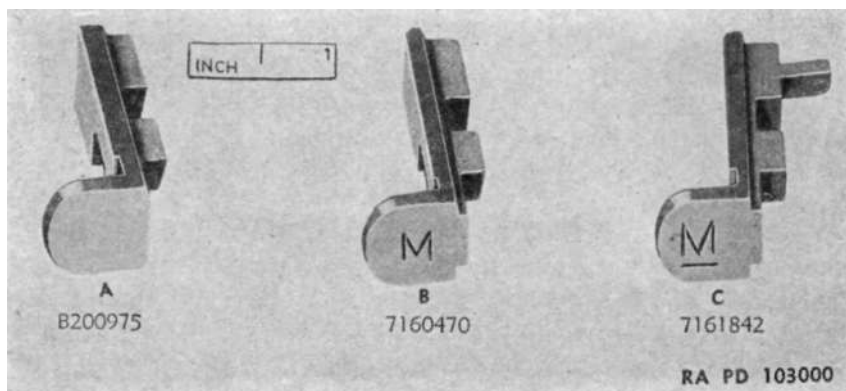

Figure 27. Old and new type of magazine catch — carbines, cal. .30, M1, M1A1, M2, and M3.
j. **MAGAZINE CATCH.** Test function of magazine catch. It should return to position when pressed and released. Check catch for free movement in guidway, deformation, worn or burred retainer plunger recess, and worn or burred magazine retention lugs. (See fig. 27.) Check magazine catch spring plunger for retention on spring, wear, and burs, and check spring for functioning, deformation, and set. Free length of spring is 0.813 (approximately  $\frac{7}{8}$ ) inch. When assembled, last coil of spring is contracted slightly and fits into groove in shank of plunger for retention. Magazine catch (B7160470), and magazine catch retainer plunger with safety plunger, assemblies (B7160472) should be used. This is the catch that protrudes outward farther than the old design, thereby providing greater engagement between the catch and the nibs on the back of the magazine. It can be readily identified by the letter "M" on the right-hand side. Illustrated in figure 27 are: old type magazine catch B200975, which is to be discarded; new type magazine catch 7160470, which has a letter "M" stamped on the thumb piece as an identifying feature; and new type magazine catch 7161842, which is currently supplied with the carbine M2. This can also be used on the carbines M1, M1A1, and M1A3. Its identifying features are an underlined "M" stamped on the thumb piece and a supporting tang.
*e.* MAGAZINE CATCH. See that projection on left end of catch is neither bent nor burred. Magazine catch must have this identification mark "M". (See fig. 27.)
*c.* Push magazine catch to left and release. Catch should return positively and smoothly to its original position. Magazine catch must be of the latest design (See fig. 27.)